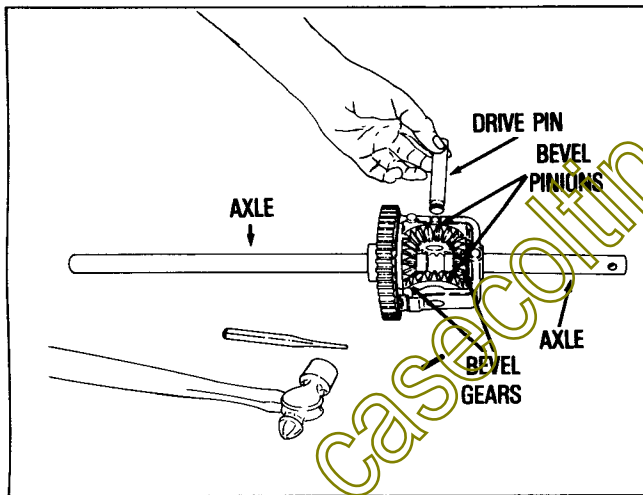

FIGURE 21
2. Remove drive pin. (See Figure 21).